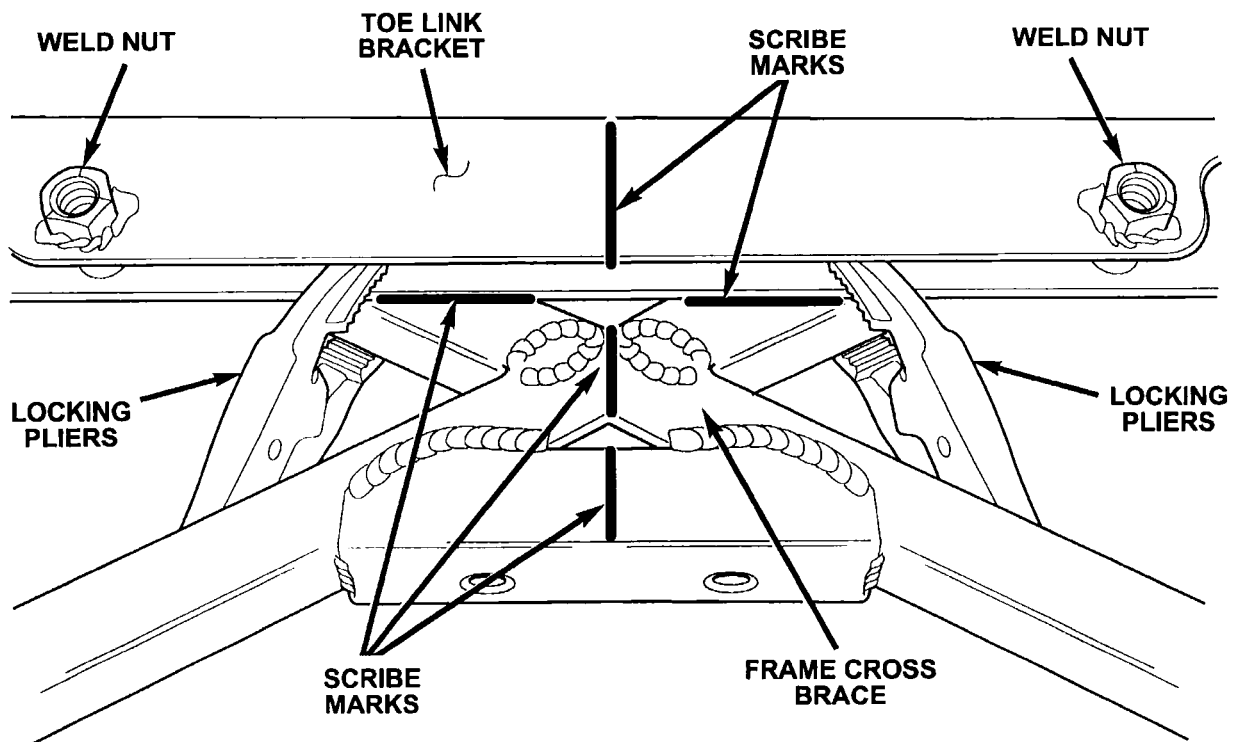

Figure 36
13. Locate and clamp into place the new toe link bracket onto the frame cross brace by aligning the scribe marks (Figure 36).